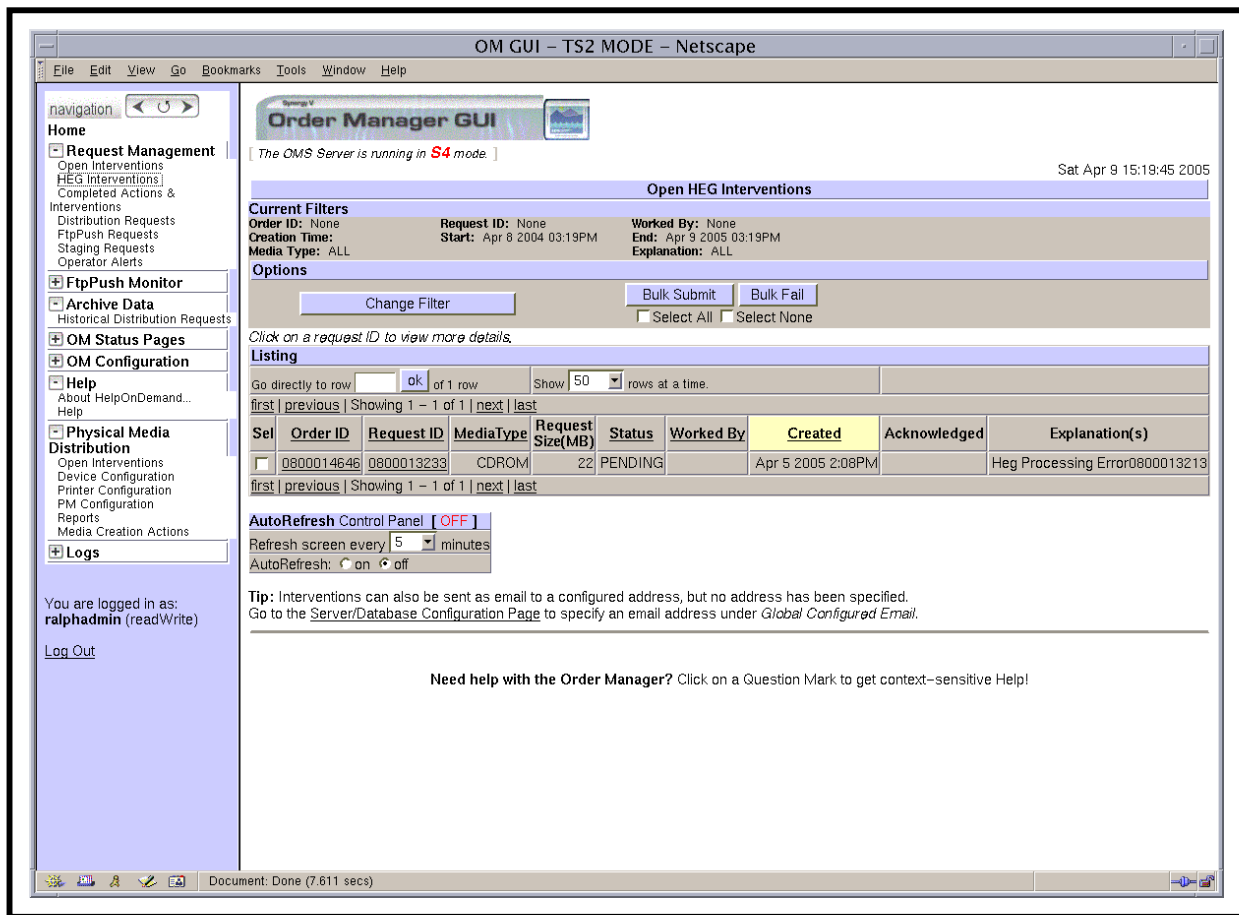

Figure 44. Open HEG Interventions Page
The **Open HEG Interventions** page (Figure 44) provides the Distribution Technician (whether full-capability or limited capability operator) with a means of viewing HEG interventions. The page is hard-coded to display HEG interventions only.
- The **Open HEG Interventions** page (Figure 44) is displayed.